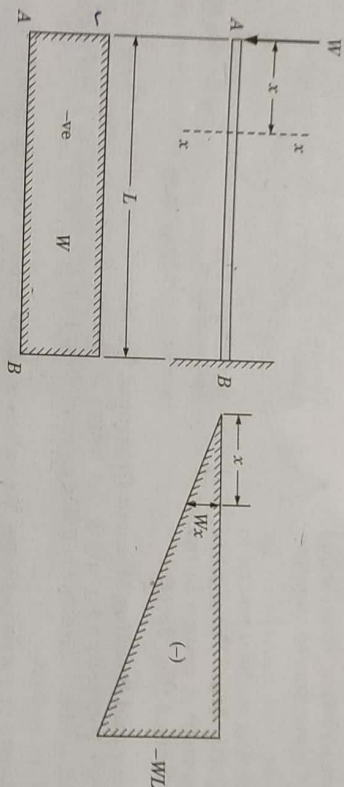

Fig. 25.15
**Example 25.1.** Draw the shear force and bending moment diagrams for a cantilever beam acted by a point load as shown in (Fig. 25.15).
The shear force is constant at all section as it is not varying with  $x$ . So S.F. diagrams is as shown in Fig. 25.15.
and B.M. diagram is as shown in Fig. 25.15.